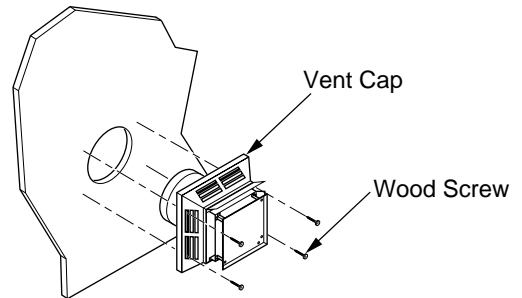

Figure 22 - Installing Horizontal Vent Cap (Noncombustible Exterior)
- Noncombustible Exterior Wall:** Apply a bead of non-hardening mastic around the outside edge of the vent cap. Position the vent cap in the center of the 7 1/2" hole on the exterior wall with the arrow on the vent cap pointing up. Attach the vent cap with four wood screws provided (see Figure 22). *Note:* Replace the wood screws with appropriate fasteners for stucco, brick, concrete, or other types of siding.